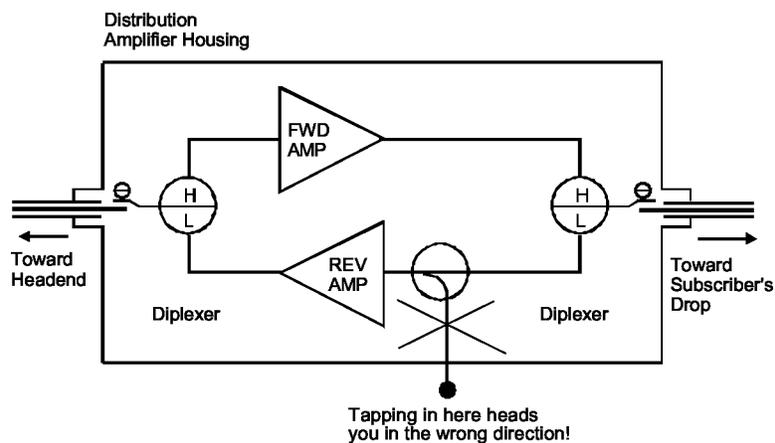

Figure 7. Incorrect Test Point Selection.
**CAUTION:** Be careful to choose a test point that is looking downstream and NOT toward the headend (see Figure 7 below).